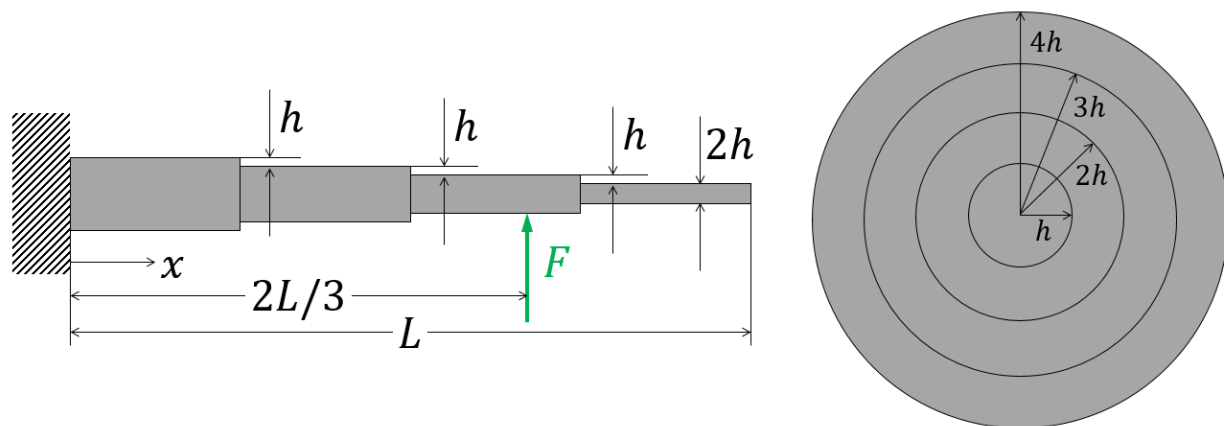

Figure 1: Schematic diagram of the antenna.
An electronics manufacturer is developing a custom portable AM/FM radio for one of its clients. Your team is one of several teams working on the telescopic antenna, which will serve as the FM signal receiver. Figure 1 shows a schematic diagram of the antenna, as well as an enlarged view of the cross-section. The antenna is a quarter-wave whip, which consists of several interconnected metal segments. The segments are hollow circular tubes that fit inside each other when the antenna is fully retracted. In general, let the length of the antenna be L when fully extended, let N be the number of segments (Figure 1 shows $N = 4$ segments, but N can in principle be any positive integer), and let the tube wall thickness of each segment be h . For the sake of simplicity, let us agree that each segment will have the same length (L/N) and the same thickness h , and that the segments will fit together snugly, as shown in Figure 1. We will ignore the hollow part of the very last segment, which is negligible.
- When fully extended, the antenna must be able to withstand a static, concentrated test force F , equal to 10 times the antenna's weight, applied transversely at a distance of two-thirds the fully extended length ($2L/3$) from the fixed base, as shown in Figure 1. Under said loading conditions, the following requirement(s) apply: